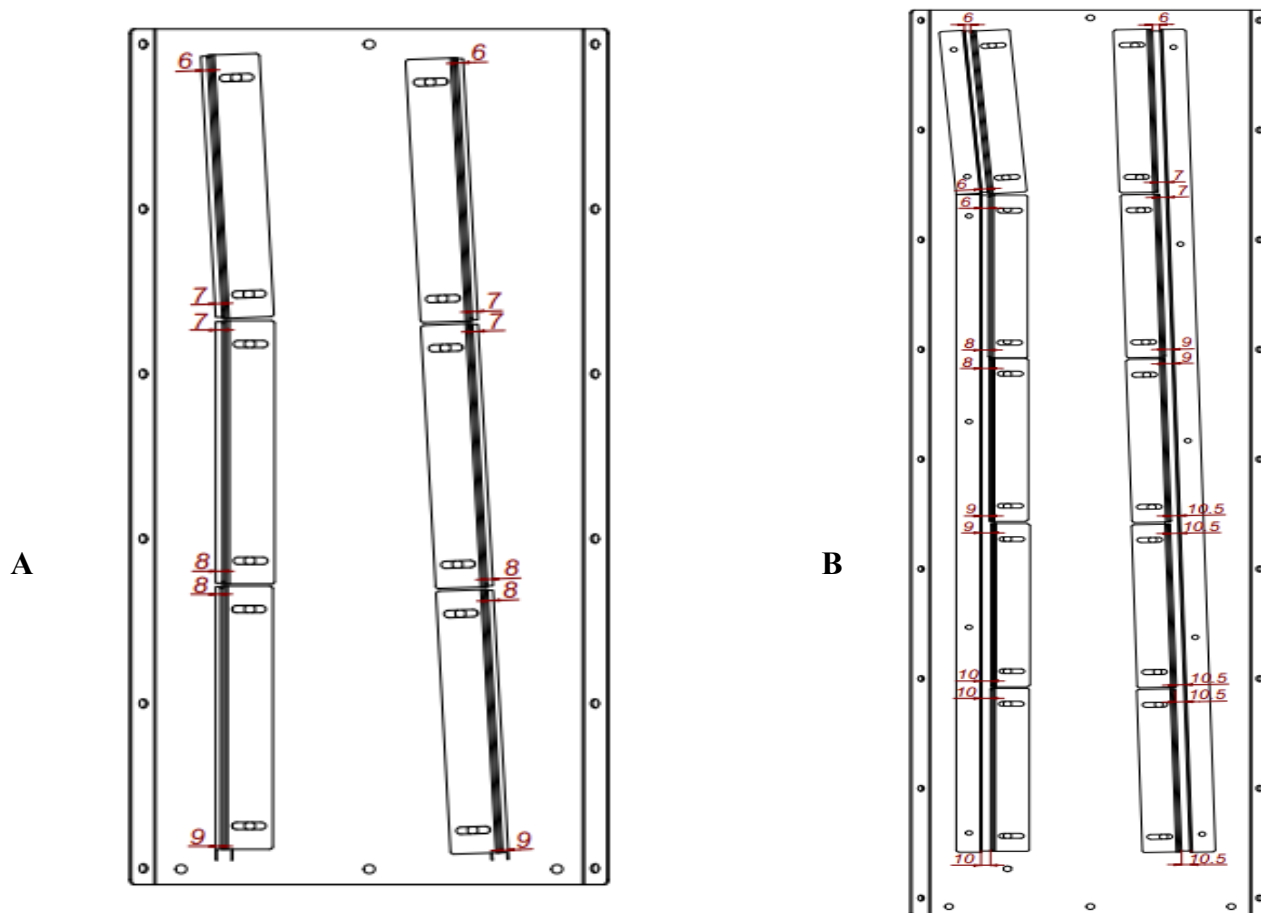

Figure 3.2 Dimensions of gate slots (factory setting) view KDP1064B-KDP1064E-GKDP1064B-GKDP1064E
- If the color of the crust of baked products is not the same at different levels of the rack trolley, then it is necessary to adjust the width of the sliding slots for supplying hot air to the baking chamber Fig. 3.2, keeping in mind that an increase in the width of the slide slots leads to an increase in temperature and vice versa. The initial state of the slide slots is set at the factory. Make adjustments, if necessary, in increments of 1 mm.